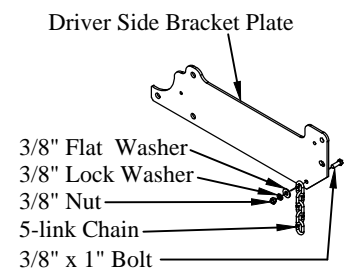

Figure 4: Chain-up feature hardware.
5. **Install** the 5-link chain on the driver side bracket plate with a 3/8" x 1" bolt, flat washer, lock washer, and nut (Figure 4).